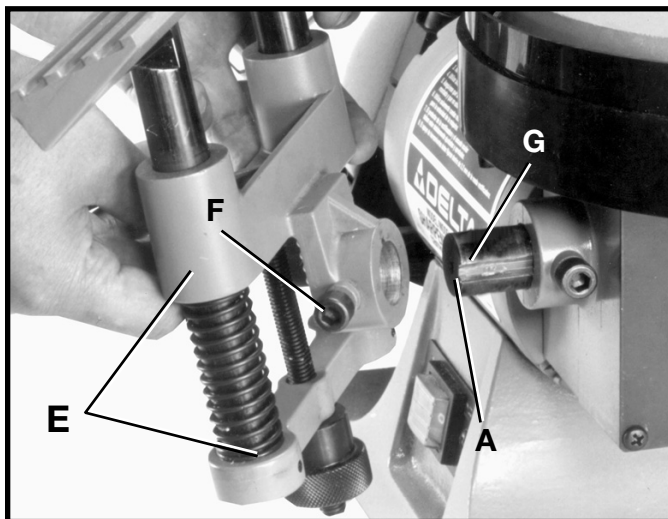

Fig. 38
2. Assemble sliding table tool rest base (E) Fig. 38, to mounting post (A) and tighten screw (F) against groove (G) in mounting post.